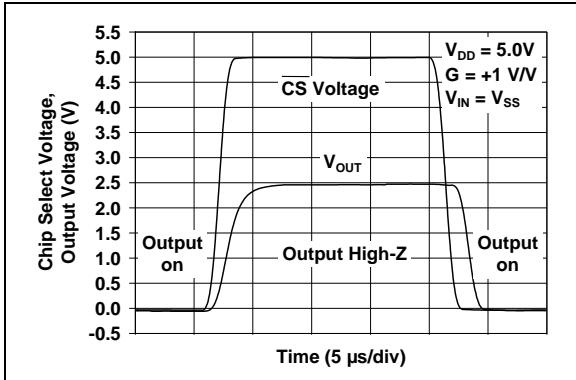

FIGURE 2-39: Chip Select (\overline{CS}) to Amplifier Output Response Time (MCP6023 only).
4.5 MCP6023 Chip Select (CS)
The MCP6023 is a single amplifier with chip select (CS). When CS is pulled high, the supply current drops to 10 nA (typical) and flows through the CS pin to V_{SS} . When this happens, the amplifier output is put into a high-impedance state. By pulling CS low, the amplifier is enabled. The CS pin has an internal 5 MΩ (typical) pulldown resistor connected to V_{SS} , so it will go low if the CS pin is left floating. Figure 1-1 and Figure 2-39 show the output voltage and supply current response to a CS pulse.